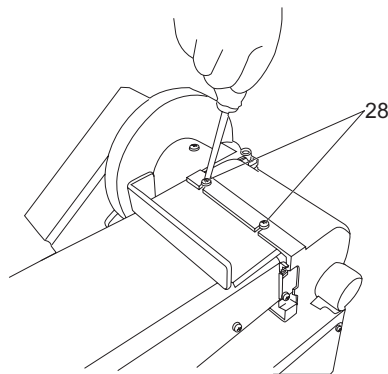

Fig. 15
- > Loosen and remove the head screws (28) and the washers. (Fig 15)